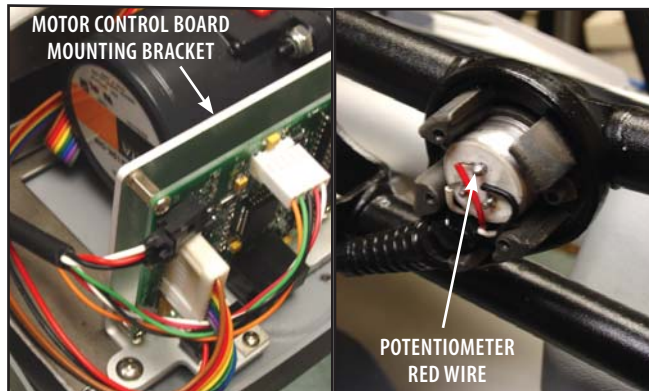

FIGURE 7.6
6. Connect the negative (black) lead from the Digital Multimeter to the Motor Control Board Mounting Bracket and the Positive (red) Lead to the Red Wire on the Potentiometer. Refer to Figure 7.6.